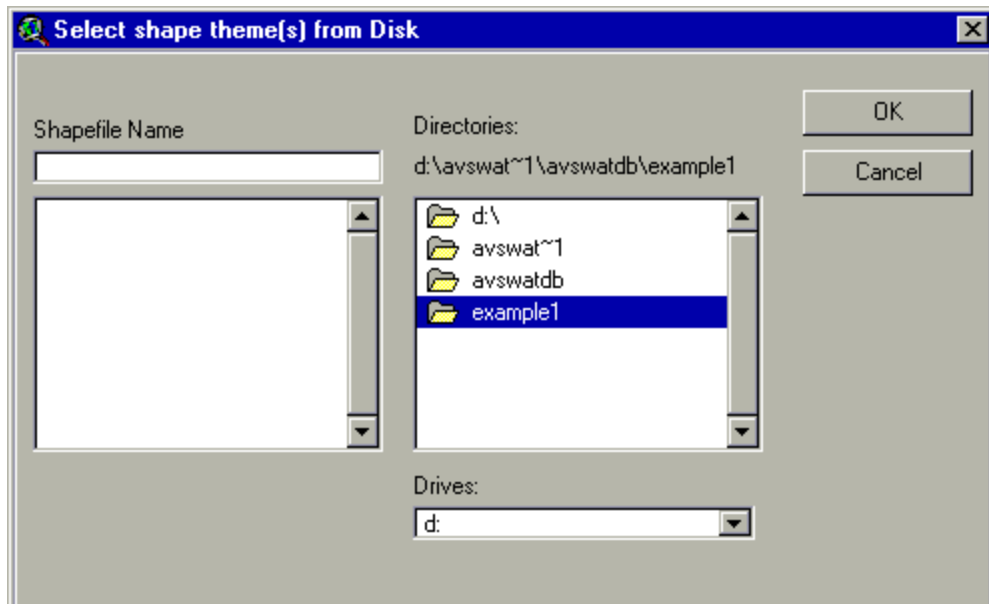

Figure 6.6
- ii. If loading from disk, a file browser pops up (Figure 6.6).